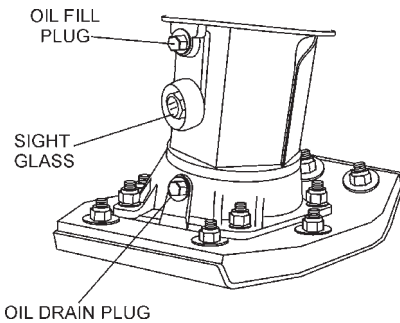

Figure 1. Foot Housing Sight Glass
1. Check the oil level through the oil level sight glass (Figure 1) at the rear of the tamper foot.
2. If oil is not visible, add 10W-30 SE, SF or higher grade motor oil into the oil fill plug opening (Figure 1). The bath contains approximately 1.0 pints (520 cc.). The oil level should be kept at the half way point of the sight glass.